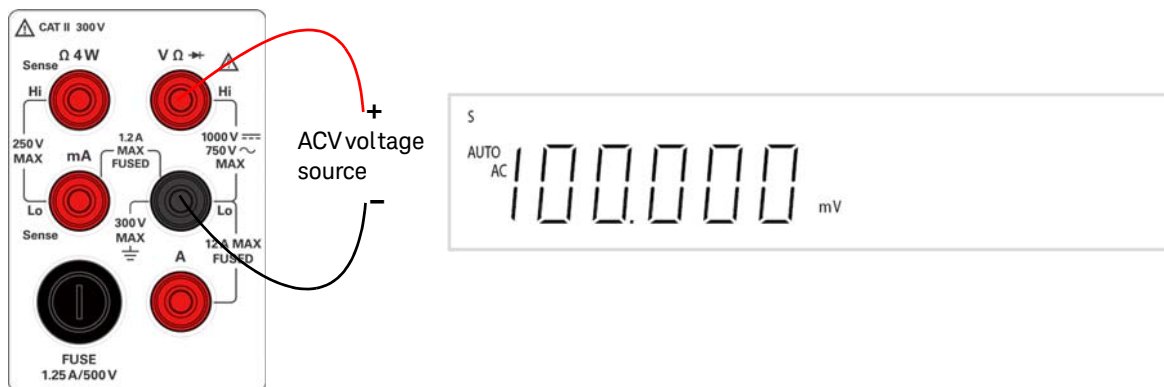

Figure 1-10 ACV terminal connection and display
- 2 Connect the red and black test leads to the respective input terminals as shown in Figure 1-10.